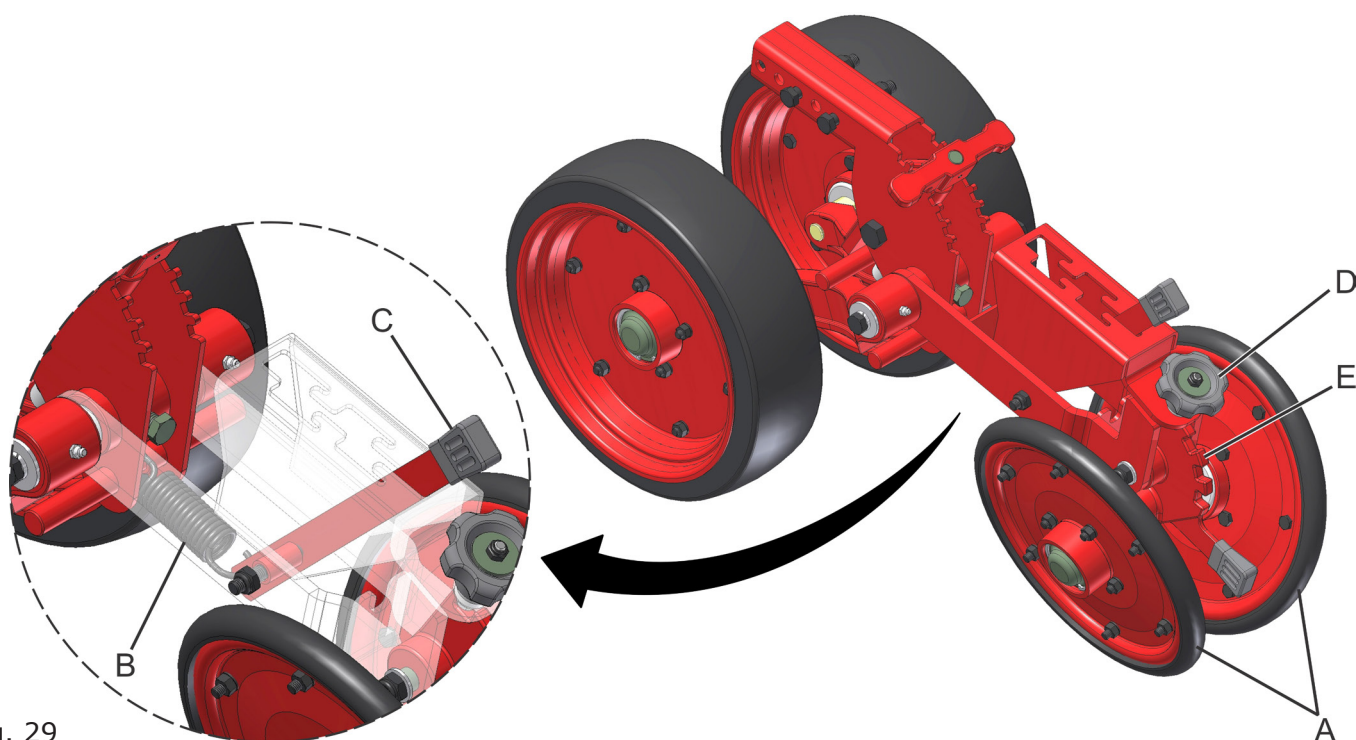

fig. 29
The compaction wheels (A) (fig. 29) perform soil pressure laterally on the seed and work with several of its adjustment options such as pressure and opening angle.
**Make sure that the lever (C) (fig. 29) and adjuster (D) are in the same position in all planting units.**